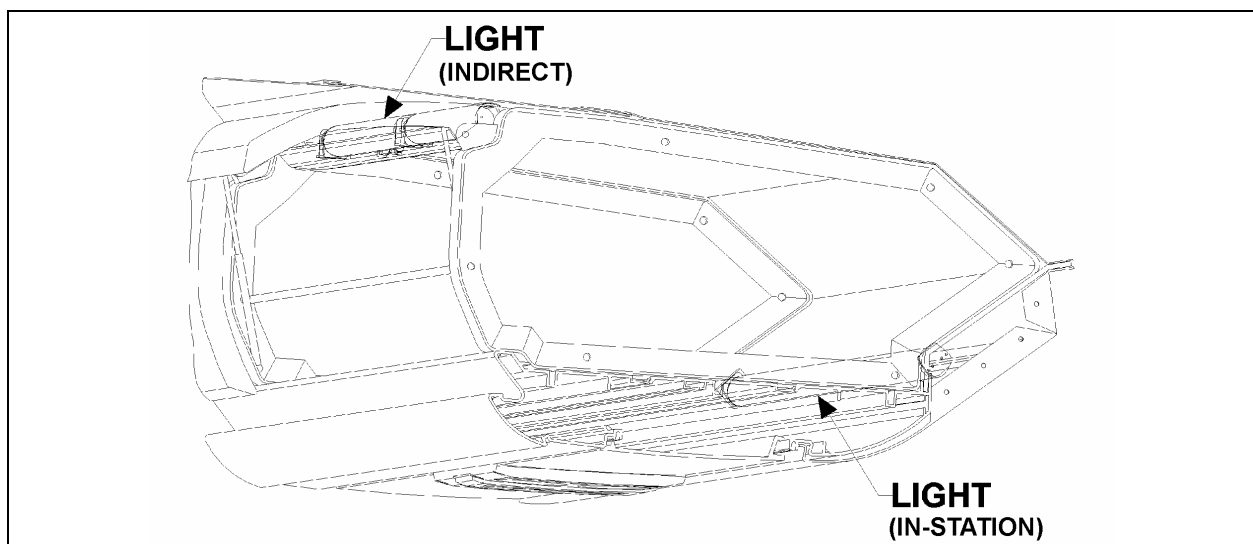

FIGURE 56: PARCEL RACK
4. Lift the hinged cover and replace the two retaining screws (Figure 56).